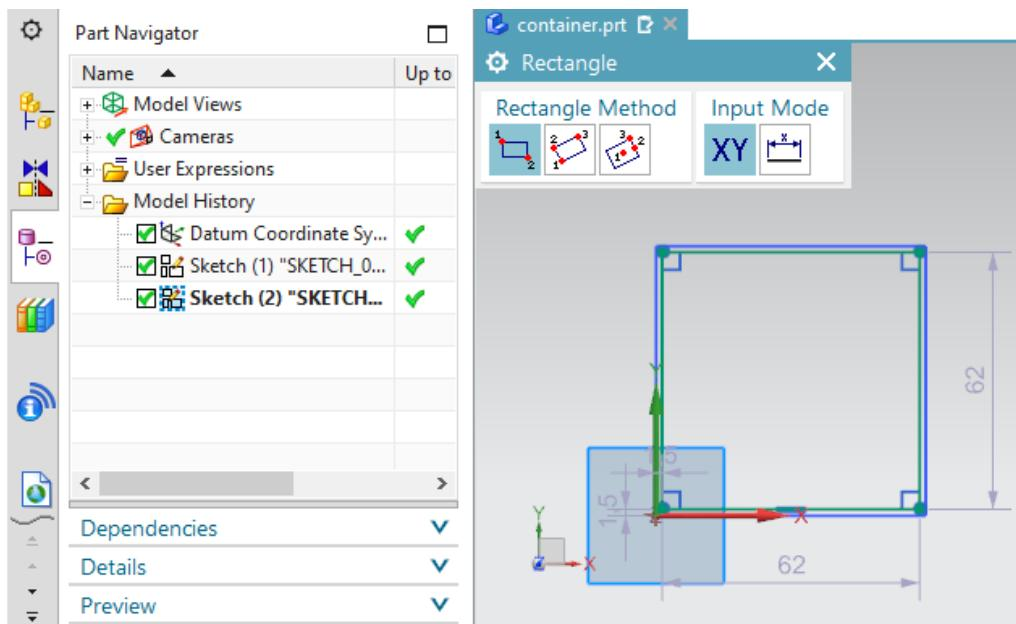

Figure 26: Sketch of the interior of the container
- The second square is to define the interior of the container. The positioning of the square will determine the thickness of the walls of the container. For this, you create a **square** with side length of **62 mm**. Use the method you applied for the first square of the container, but change the coordinates of the points (see Figure 26):